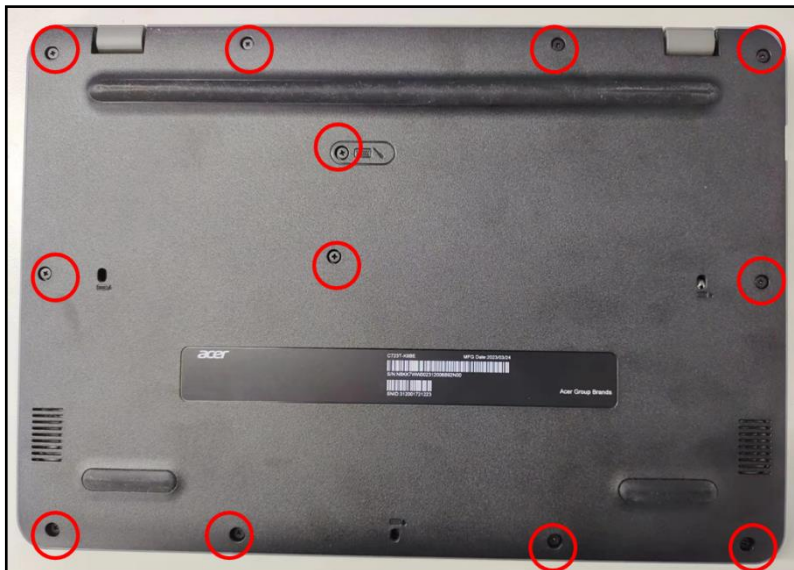

Figure 3-3. Base Cover Removal
1. Remove twelve (12) screws from the base cover (Figure 3-3).